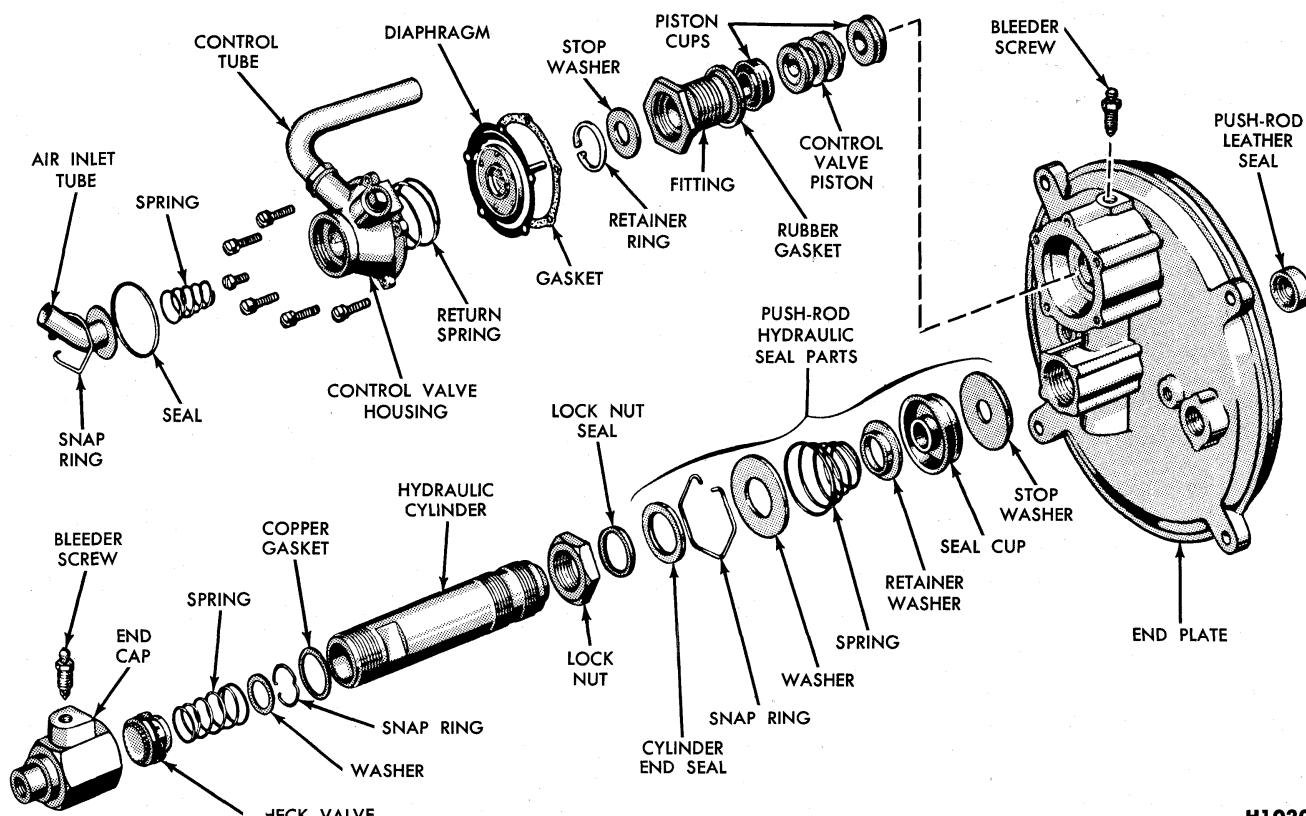

FIG. 31—End Play Disassembled— $9\frac{1}{2}$ -Inch Booster
and check valve (Fig. 31). A truck with a $9\frac{1}{2}$ -inch booster has a check valve mounted in the end cap. Therefore, a check valve is not used in the master cylinder on these trucks.
On a $9\frac{1}{2}$ -inch booster, remove the cups from the piston (Fig. 31).
1. On a 9½-inch unit, assemble the check valve parts in the end cap (Fig. 31), and secure them with the lock ring. Be sure the lock ring is firmly seated in the groove.
On a 9½-inch unit, assemble the piston cups into the grooves of the piston. The cups must be assembled with their lips pointing away from each other (Fig. 31). Insert the piston and cups into the fitting with the hole end of the piston next to the stop washer.